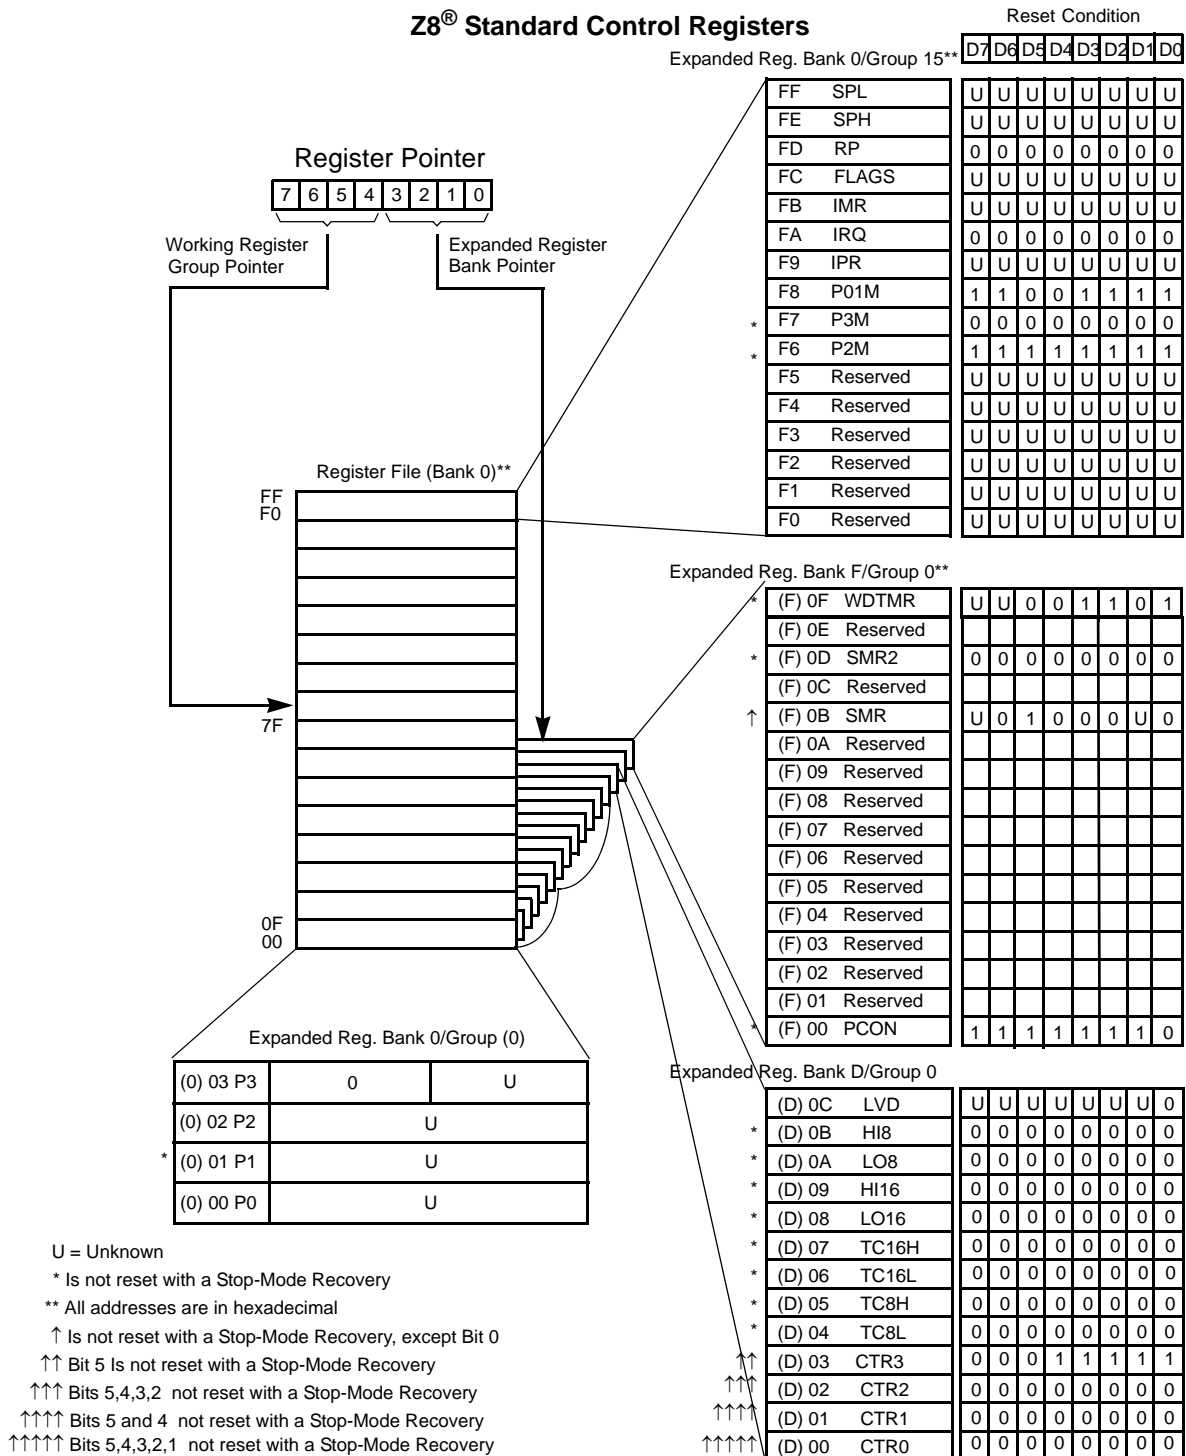

Figure 15. Expanded Register File Architecture
- **Note:** An expanded register bank is also referred to as an expanded register group (see Figure 15).